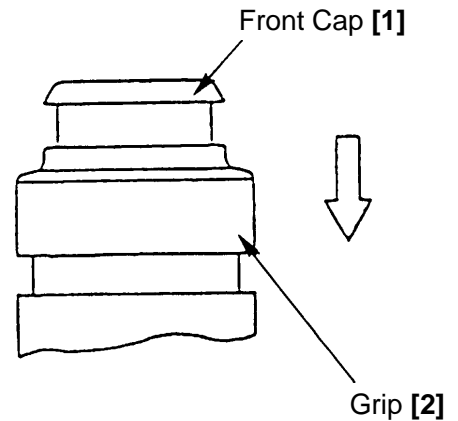

Fig. 14
(4) Disassembly of the Chuck Section
As shown in Fig. 14, slide the Grip [2] in the direction indicated by the arrow mark, and remove the Front Cap [1]. The Grip [2], Ball Holder [3] inside the Grip [2], Holder Spring [4], Washer (B) [5] and Steel Ball [18] can then be removed from the Cylinder [20].